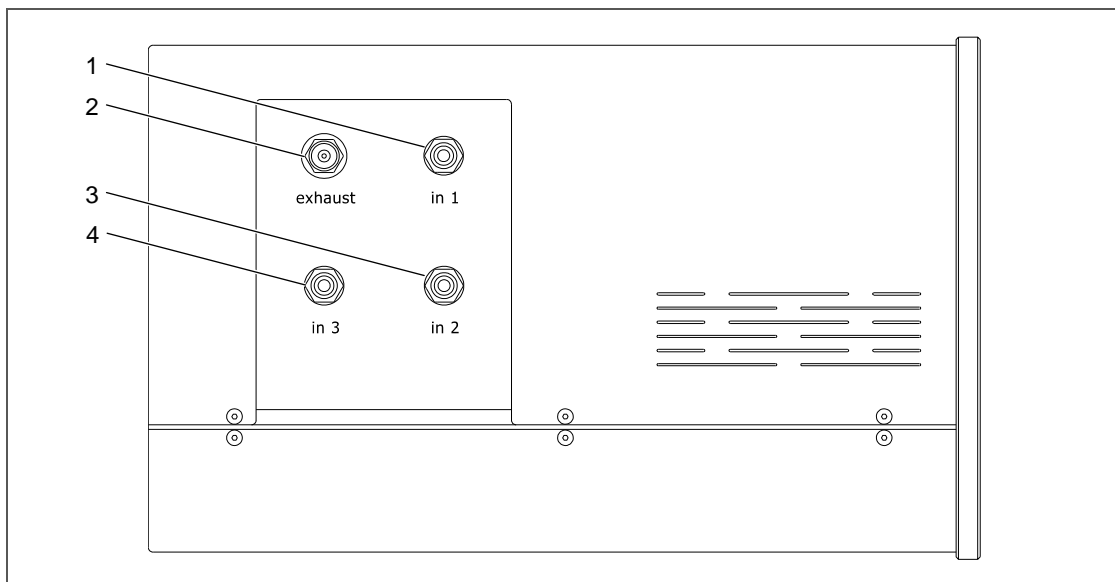

Fig. 15: Connection assignment (view from right side)
See Fig. 15 "Connection assignment (view from right side)", page 30.
2. Connect the measuring gas pipe, the exhaust pipe and if necessary additional devices with the connections at the right device side (see Fig. 15, page 30).